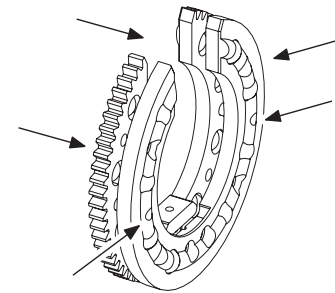

Figure 33 Placing the Rotor on the Work Surface
2. Place the rotor on a clean, dry surface with the rotor opening facing up. Separate the gear ring from the brush ring enough to clear the two rotor pins. See Figure 33.